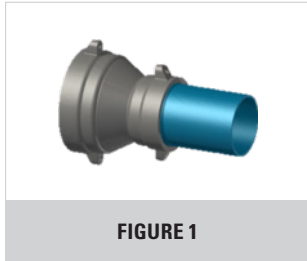

FIGURE 1
- Figure 1, Push-On joint assembly per AWWA C600 — make sure the pipe spigot is beveled, ensure the fitting gasket seat is clean and dry prior to joint assembly. Insert the gasket into the fitting gasket seat and evenly lubricate the inside surface of the gasket only. Confirm the exterior pipe wall of the spigot end of the pipe is clean and free from raised or rough areas. Keeping the pipe straight with the fitting socket, insert the spigot end of the pipe fully against the pipe stop inside the fitting socket.